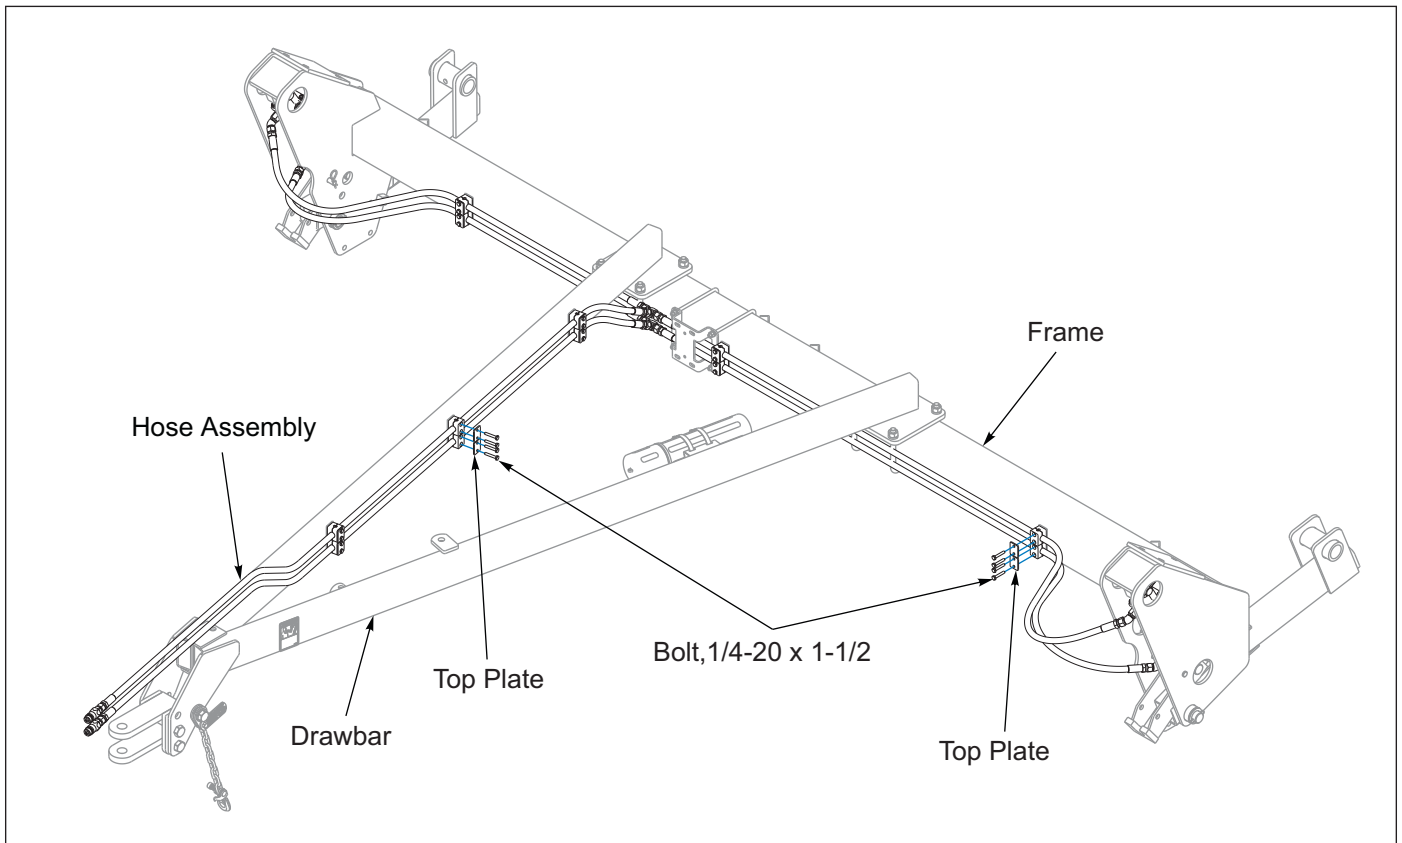

Figure 2-16: Drawbar Hydraulic Hoses (Before 08/2025)
2. Route the Drawbar Hydraulic Hoses along Drawbar toward the Tractor. Secure Hoses to Drawbar with Hose Clamp Pairs, Top Plate and 1/4-20 x 1-1/2 Bolt. See Figure 2-16.